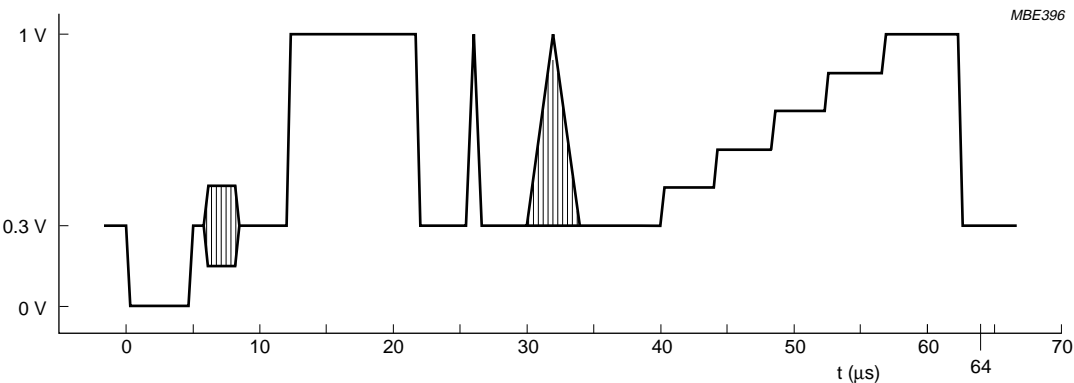

Fig.4 CCIR insertion line 17.
- Ratio between the CCIR 17-line bar amplitude (corresponding to the level difference between black and white; see Fig.4) and the RMS value of the noise on a black line (line 22 or 335) measured on the video signal after demodulation. Measurement is done for frequencies between 200 kHz and 5 MHz. Measurement is unweighted.